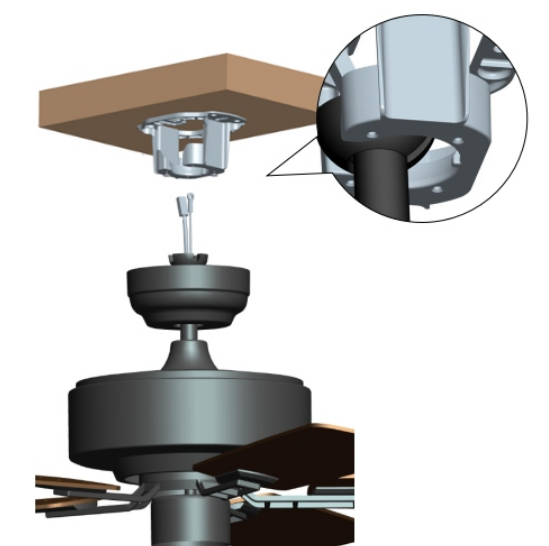

Fig 6.1
6.1 Hang the assembled ceiling fan on the mounting bracket that mounted to the ceiling as shown in Fig 6.1, pay attention to the enlarged image as shown in Fig 6.1. Install the ball end of the downrod into the opening of mounting bracket. Rotate the downrod until the tab in the mounting bracket is seated in the slot in the downrod ball.